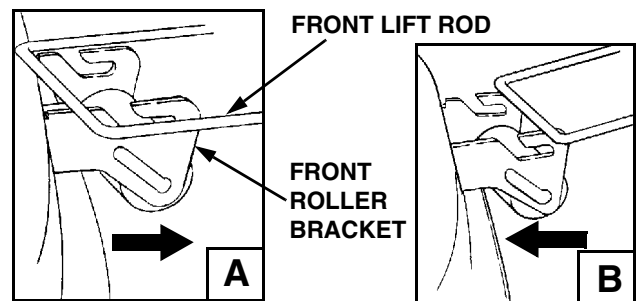

Figure 39
7. Raise the implement lift handle to its highest setting. Slide the mower deck forward, so the front lift rod rests to the rear of, and free of, the front roller bracket slots of the deck (Refer to Figure 39-A).
8. Raise the front lift rod upward and slide the mower deck rearward. Lower the front lift rod so it rests on the front roller bracket of the deck, forward of the slots (Refer to Figure 39-B).